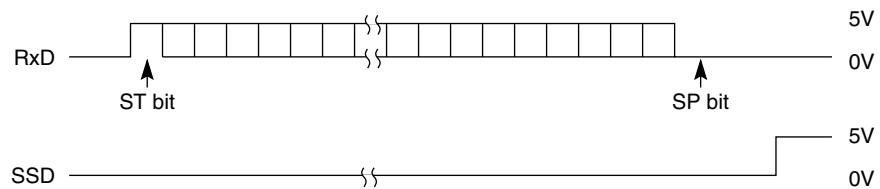

Figure B-3-4
- Yes Is RxD in Q3 as shown in Figure B-3-4?
② During serial interface reception, some print data is skipped or the printer does not operate.
• Are RxD and SSD in Q3 as shown in Figure B-3-4?